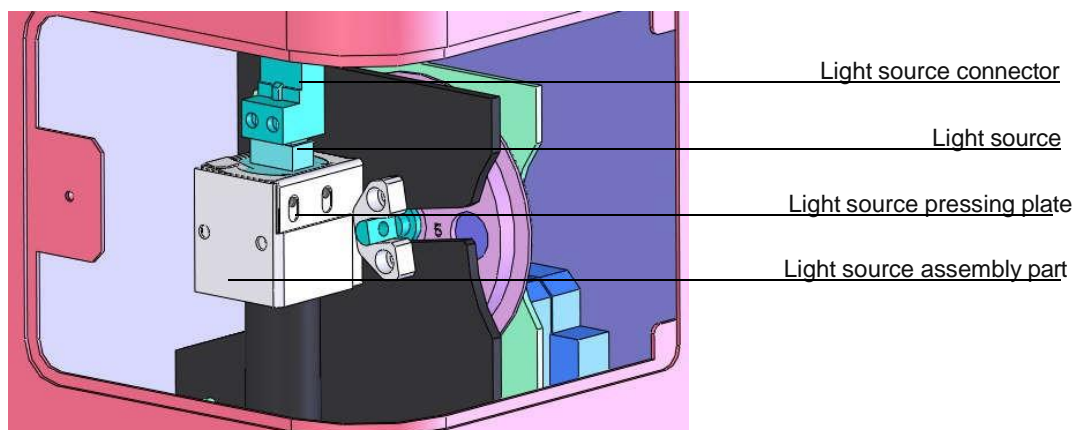

fig 55
- Open the back door of the instrument, light source showed as Fig 55, loose screws on light source connection by a small screw driver, remove connection upwards.